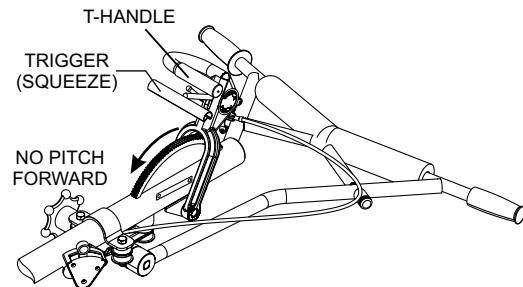

Figure 10. Blade Pitch T-Handle (Quick Pitch™ Handle)
2. For **Quick Pitch™ Handle** models extend the pitch cable to maximum length by grasping the T-handle (Figure 10), then squeezing the trigger lock and pushing the T-handle forward for no pitch (blades flat).